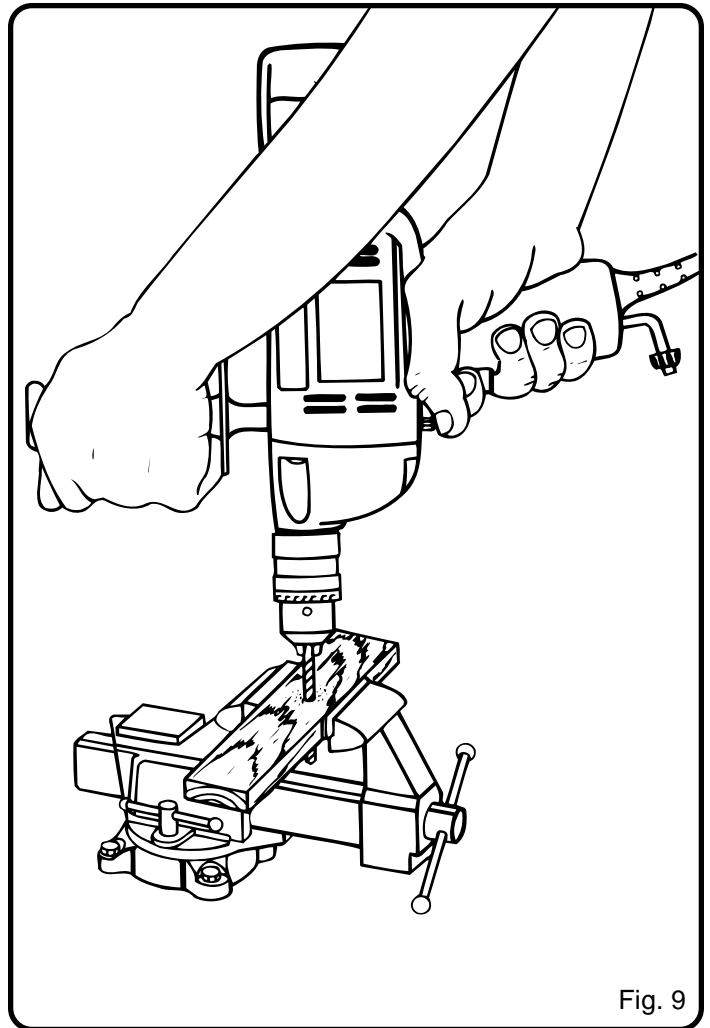

Fig. 9
See Figure 9.
7. Move the drill bit into the workpiece applying only enough pressure to keep the bit cutting. Do not force your drill or apply side pressure to elongate a hole. Let your drill and bit do the work. See Figure 9.